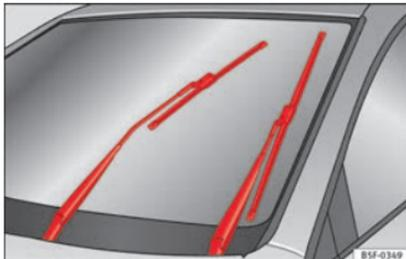

Fig. 71 Wipers in service position
- Turn the ignition on and off and then (with approximately 9 seconds) push the windscreen wiper lever down (short wipe). The windscreen wipers will move to the service position »» **Fig. 71**.